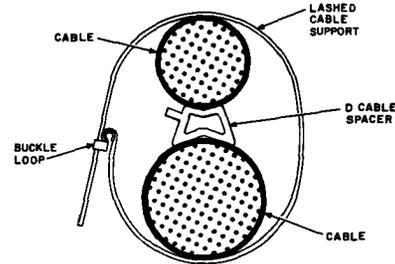

Fig. 5—Lashed Cable Support Wrapped Loosely Around Cable
2.07 Wrap one turn of the B lashed cable support loosely around the cables and thread the strap through the buckle loop as shown in Fig. 5.